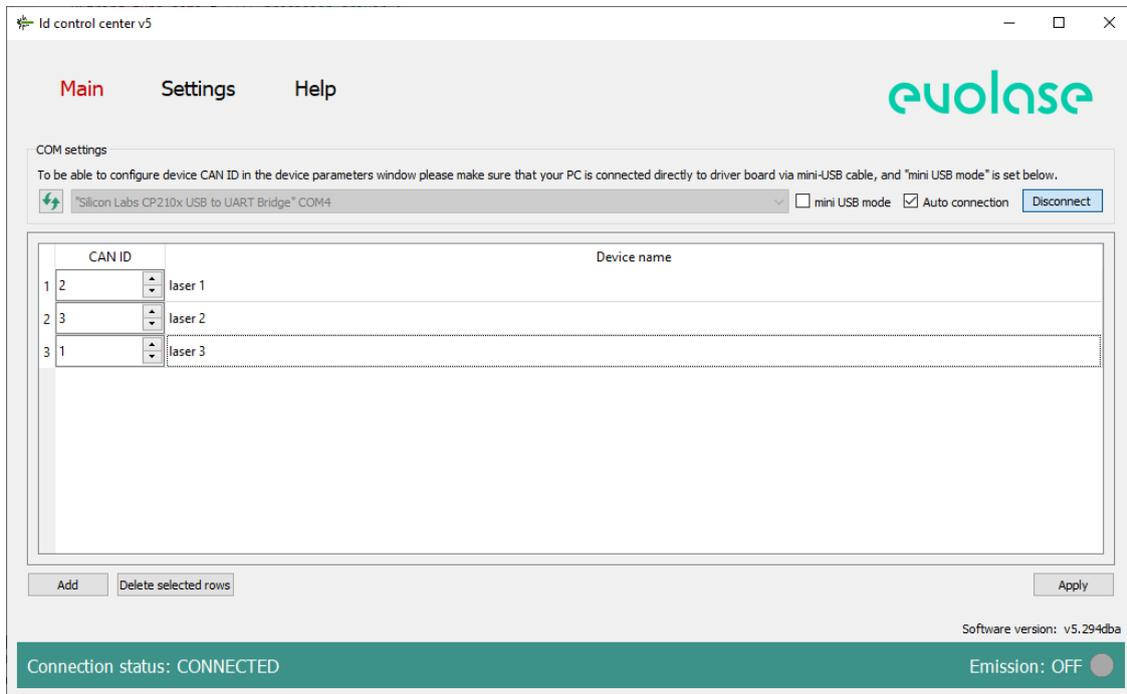

Figure 13: The system configuration menu
3. Click “Settings” to enter the program configuration menu (fig. 13).